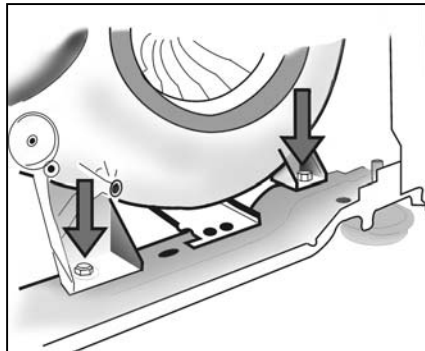

Figure 5-11: Fan Motor Bolts.
3. Remove the two (2) Fan Motor Bolts (Figure 5-11).